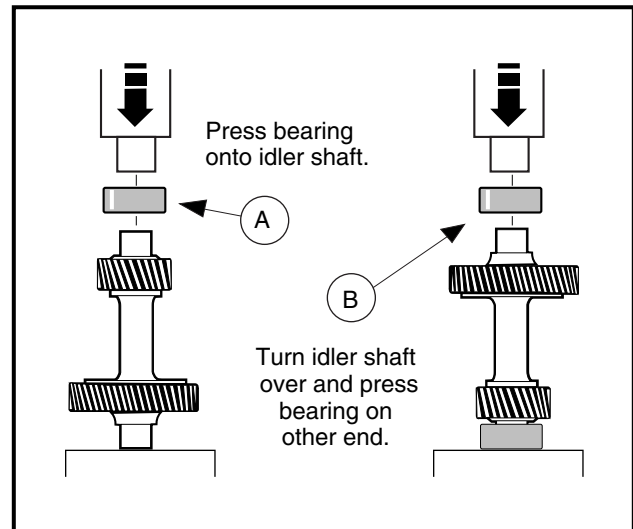

Figure 7-27 Idler Shaft
1. Press a new bearing (67) (**Figure 7-16, Page 7-9**) onto each end of the idler shaft (**Figure 7-27, Page 7-15**). See following **CAUTION**.